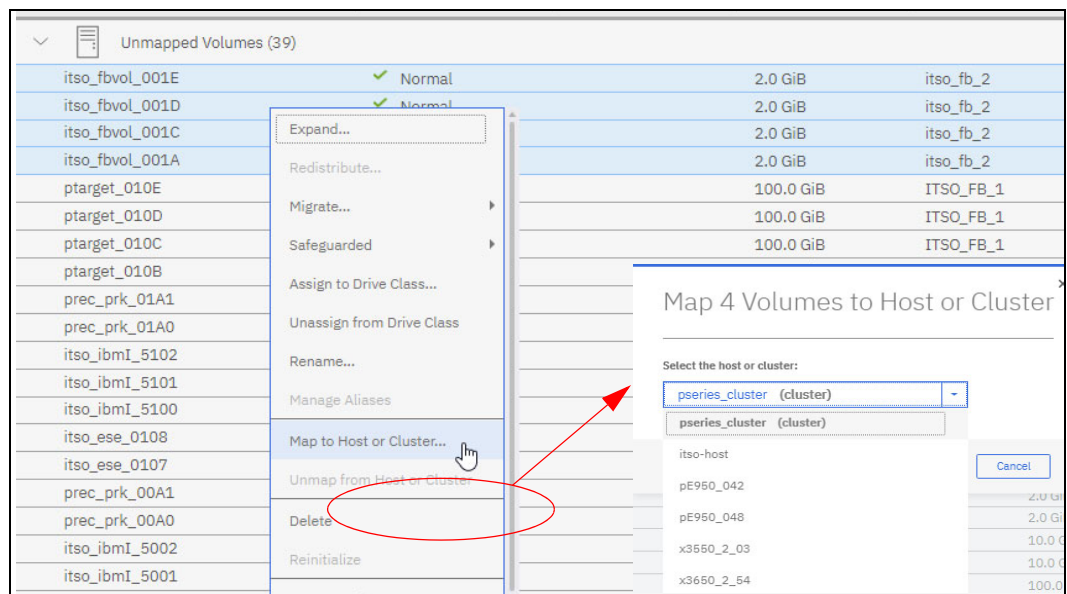

Figure 9-66 Mapping unmapped volumes to a host or cluster
2. The Volumes by Hosts menu opens. Select the volumes to map from the **Unmapped Volumes** list, as shown in Figure 9-66. From the Actions tab, or by right-clicking, select **Map to Host or Cluster**.
- The Map Volume to Host or Cluster window opens. Select the host or cluster from the list of configured stand-alone hosts and clusters, as shown in Figure 9-66 on page 291, and then click **Map**.